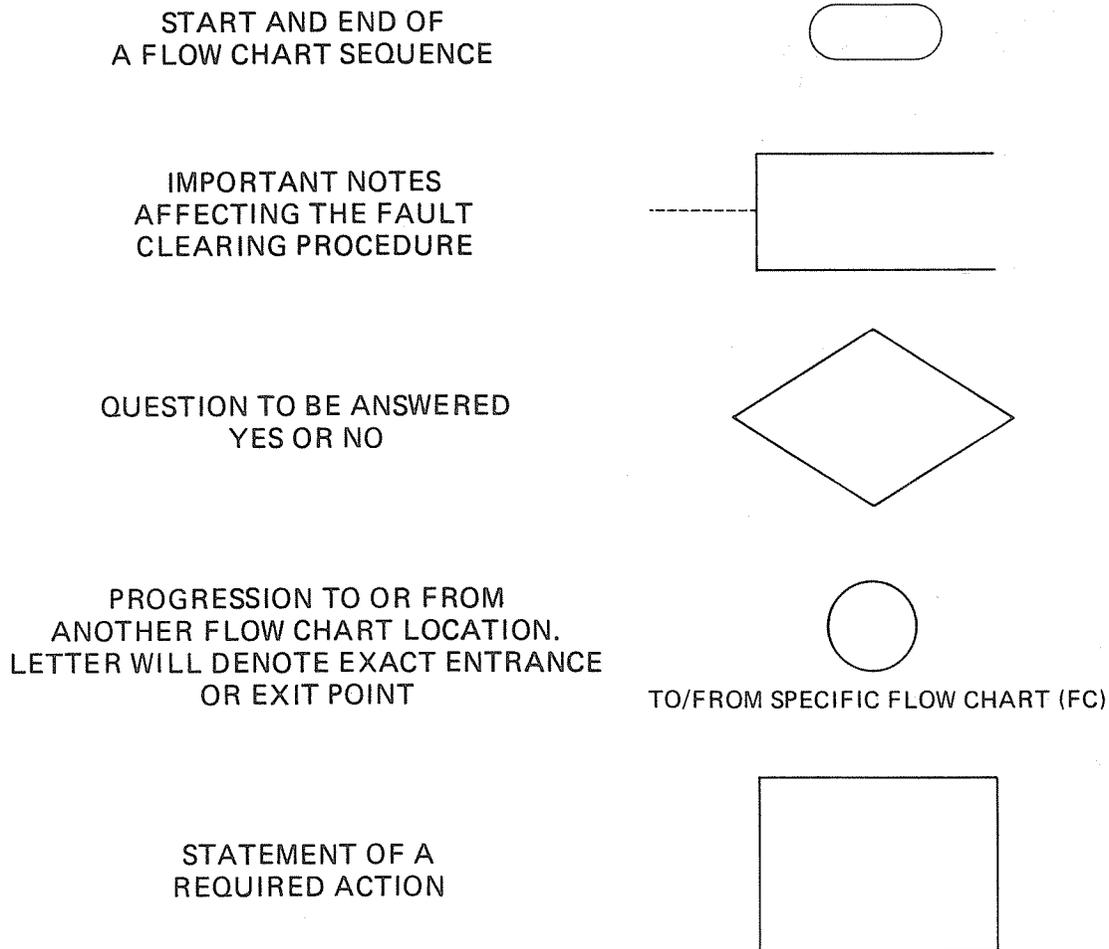

FIGURE 1 – FLOW CHART SYMBOLS
03.03 Five symbols are used in the flow charts. These symbols are identified in Figure 1.